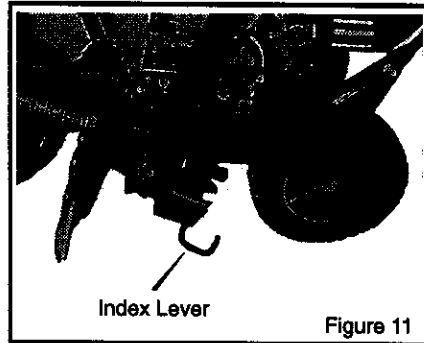

Figure 11
4. Disengage the index lever (see Figure 11). Move the index lever to the notch marked 90°.